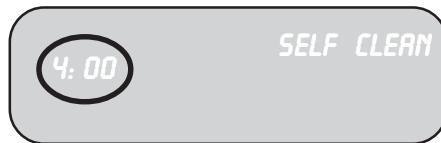

Figure 1
3. The default cleaning time is 4 hours. To change cleaning time, turn knob to change number of hours (See Figure 1). Otherwise, continue to step 4.